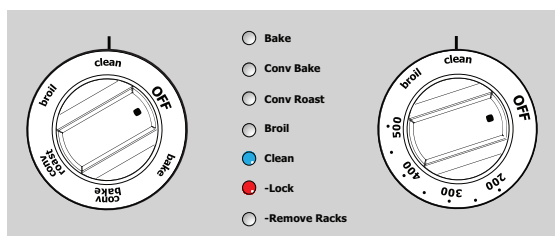

Figure 23: Clean cycle initiated
2. Turn the temperature adjust dial to **clean**. The **Clean** indicator light will be steady and the **Lock** indicator light will blink while the door lock engages (about 15 seconds). Refer to Figure 23 below.